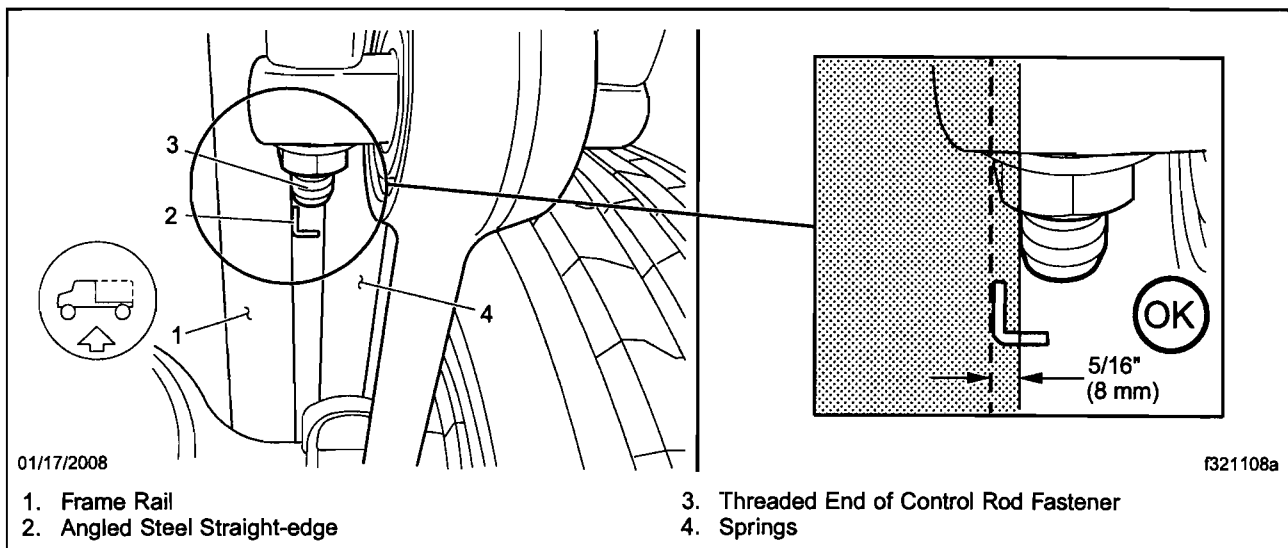

Fig. 8, Frame Bracket Inspection Viewed from Below, FL502C Vehicles Only
3. If the threaded fastener end is 5/16 inch (8mm) or more outboard of the frame rail side of the angled steel, no further work is needed. See Fig. 8. Clean a spot on the base label (Form WAR259). Write the recall number, FL502, on a blank, red completion sticker (Form WAR260) and attach it to the base label.
If the threaded fastener end is within 5/16 inch (8mm) of the angled steel edge, or inboard, the fastener is too far inboard of the frame rail. See Fig. 8. Replace the center suspension bracket. Go to the "TufTrac Center Suspension Bracket Replacement" after completing the inspection on the other side. **Replacement center suspension brackets must be ordered by vehicle serial number. You may order using "Next Day" (not "Next Morning") freight if necessary. Critical charges will not be covered by the Recall.**